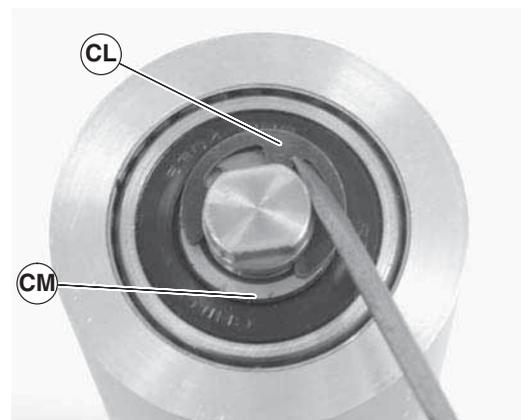

Figure 92
6. Remove the pulley shaft assembly: remove the clip ring (Figure 92, item CL) and washer (CM) from one side of the pulley assembly.